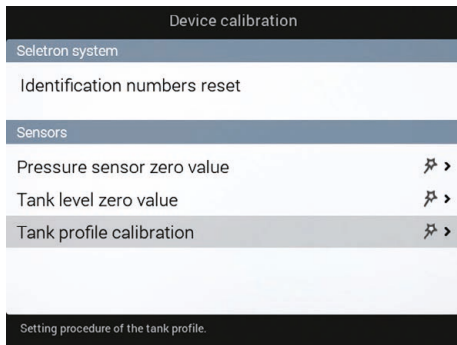

Fig. 146
- 4** Select **Tank profile calibration** (Fig. 146) and press **OK**. The calibration starts.